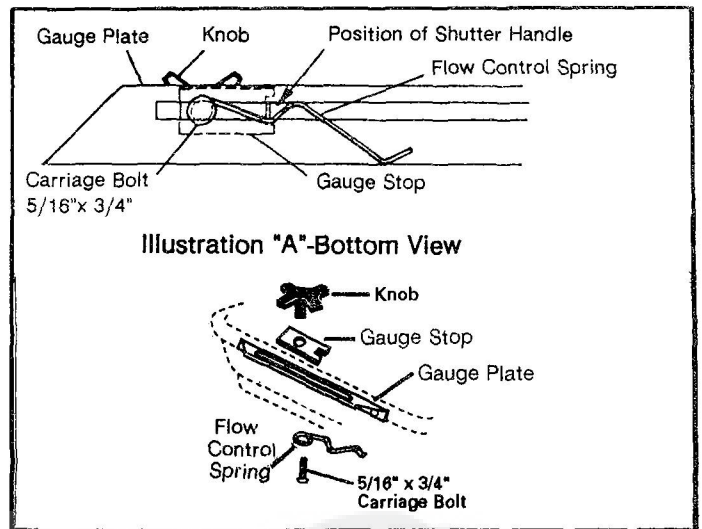

FIG. 8.
Refer to FIG. 8.
- Secure with 5/16"x 3/4" carriage bolt, flow control spring (under carriage bolt head) as shown in Fig. 8-Illustration "A". Insert from under gauge plate, up through gauge stop, securing with plastic knob. Slide to the left and tighten.